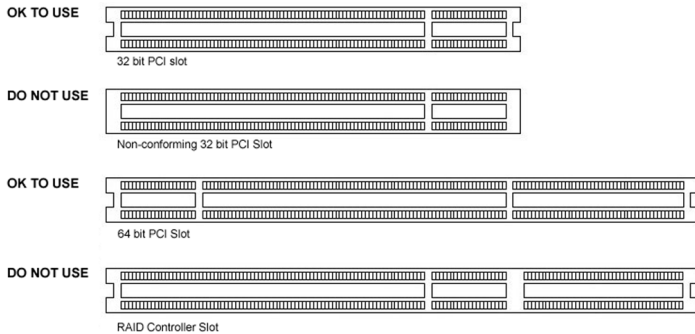

Figure 5: PCI and RAID Controller Slots
Although the BarcoMed Nio is a 64-bit board, it may be installed in either a 64-bit or 32-bit PCI slot. However, installing it in a 32-bit PCI slot will result in a decrease in performance. Figure 5 on page 25 illustrates the types of slots so that you can correctly identify which one to use for the BarcoMed Nio.
4. Install the BarcoMed Nio display controller into a free PCI slot, either 64-bit or 32-bit (see figure 5 above, for examples of slots). Be sure that the display controller is seated firmly in the slot.